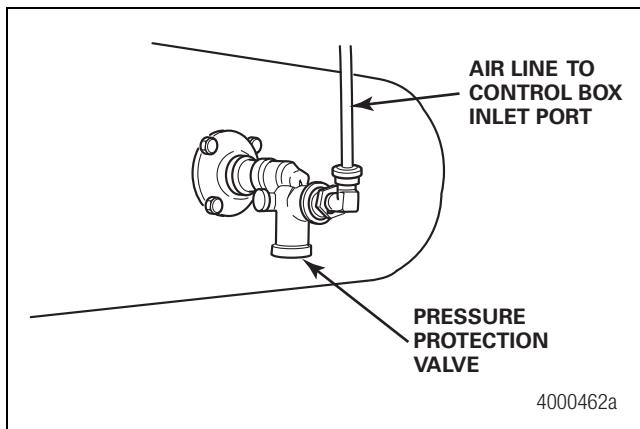
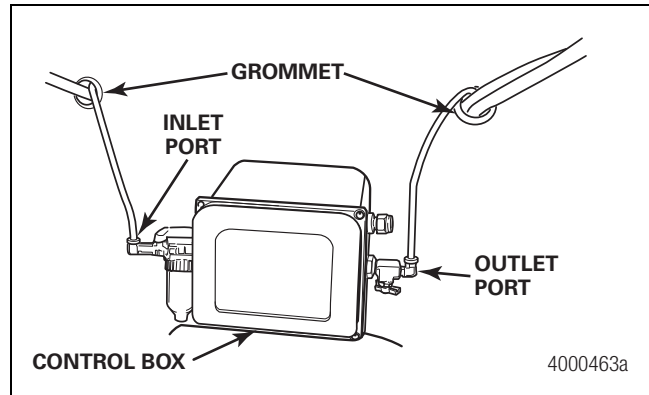

Figure 2.59
Figure 2.60
1. Route an air line from the PPV to the control box inlet port. Figure 2.59 and Figure 2.60. Hand-tighten the air line fittings, then use a 9/16-inch wrench to tighten them approximately one additional turn to obtain an airtight seal.